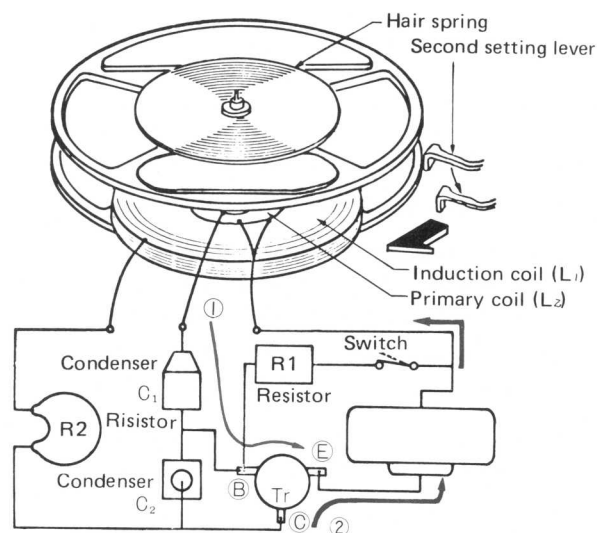

Fig. 1-2
- 3) The weak current generated in the (L₂) flows into the base (B) of the transistor (Tr) and on into the emitter (E) (→ ① in Fig. 1.2). When it flows to (E) from (B), collector (C) and (E) open; as a result, the main current flows through the induction coil (L₁) (→ ② in Fig. 1.2).